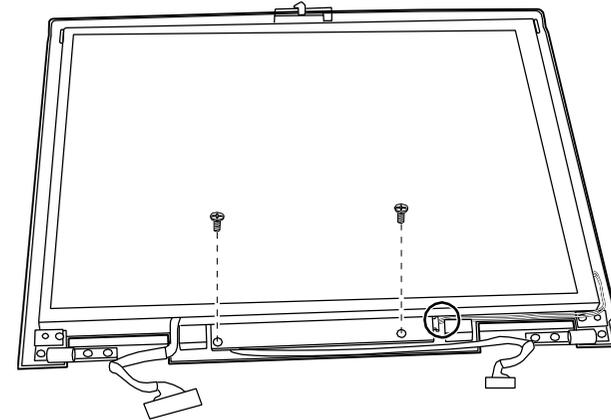

Figure 5-26. Removing the Inverter/LED Board
1. Reconnect the inverter cable. Fit the inverter/LED board back into place and secure with two screws. (Refer to Figure 5-26.)